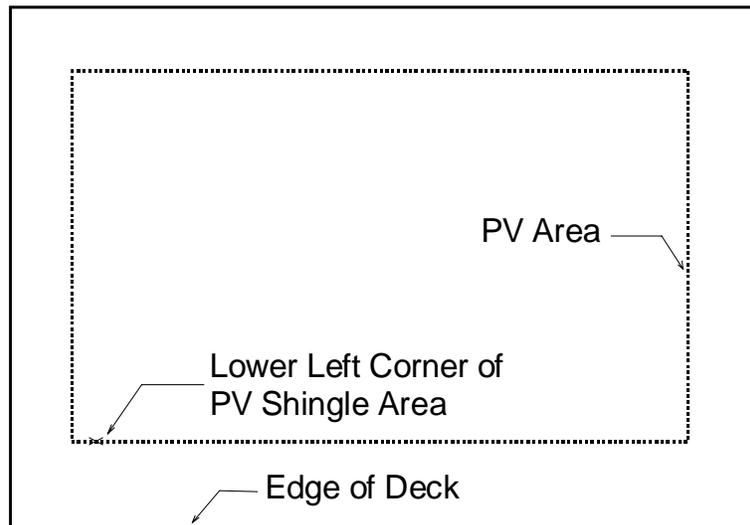

Figure 1
**NOTE:** Reference figures 1 through 3 for steps 1.1 through 1.6. Deck must be flat, with no sagging or buckling of plywood and free of protrusions such as high fasteners, plywood splinters etc.
- 1.2 Prior to installing the PV shingles determine the starting position of the first PV shingle. Place a mark on the deck at the lower left corner of where the first PV shingle will be. This position should be in increments of 5" from the bottom edge of the first row of asphalt shingles (see figure 1).